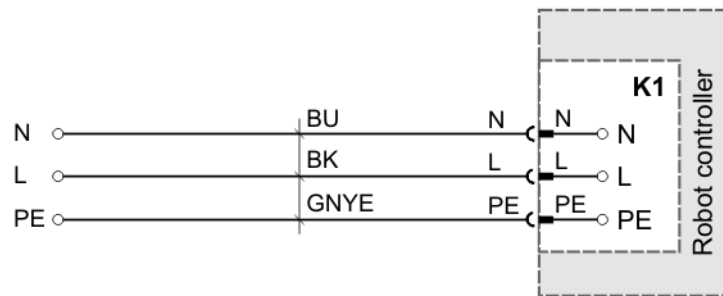

Fig. 8-4: Power supply connection
3. Connect the robot controller to a grounded-neutral power supply system in accordance with (>>> Fig. 8-4).
- Light blue (BU) to the neutral conductor of the power supply system
- Black (BK) to the live cable of the power supply system